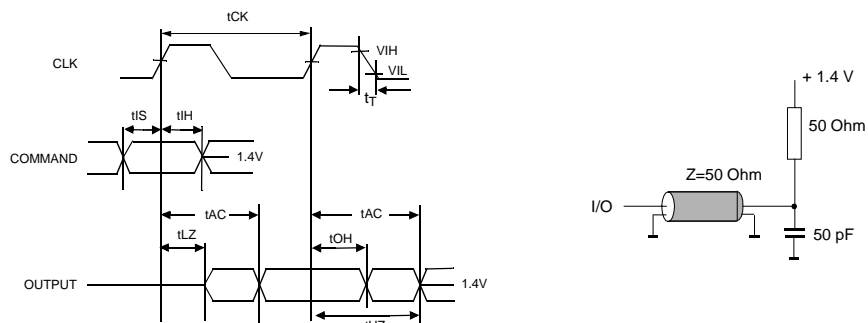

Figure 1.
- AC timing tests have  $V_{IL} = 0.8V$  and  $V_{IH} = 2.0V$  with the timing referenced to the 1.4 V crossover point. The transition time is measured between  $V_{IH}$  and  $V_{IL}$ . All AC measurements assume  $t_T = 1ns$  with the AC output load circuit shown in Figure 1.